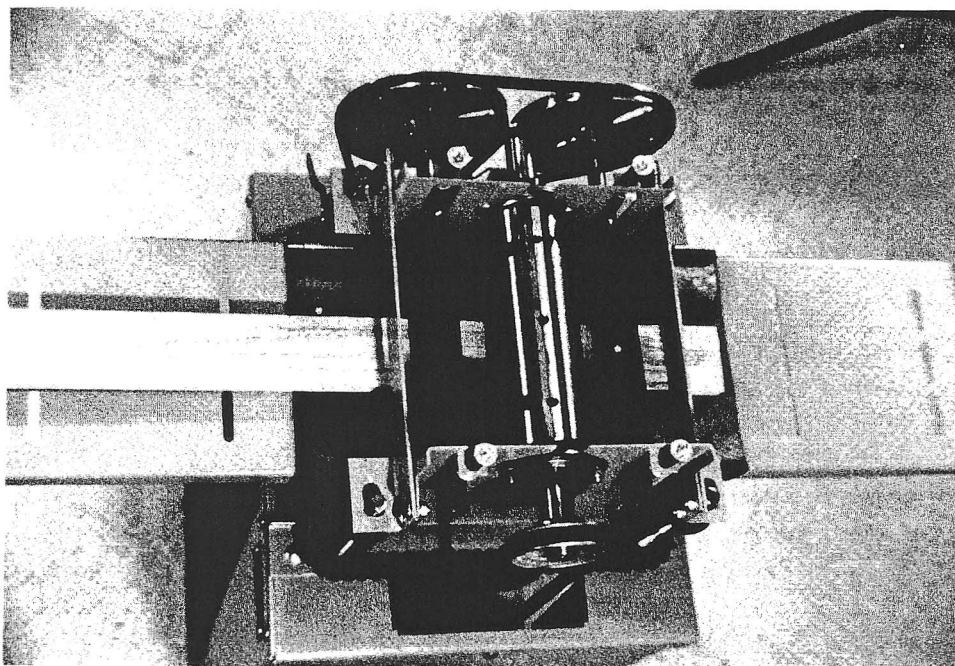

Fig. 3
6. Feed the board into the machine so that it travels in a straight line. (fig. 3)